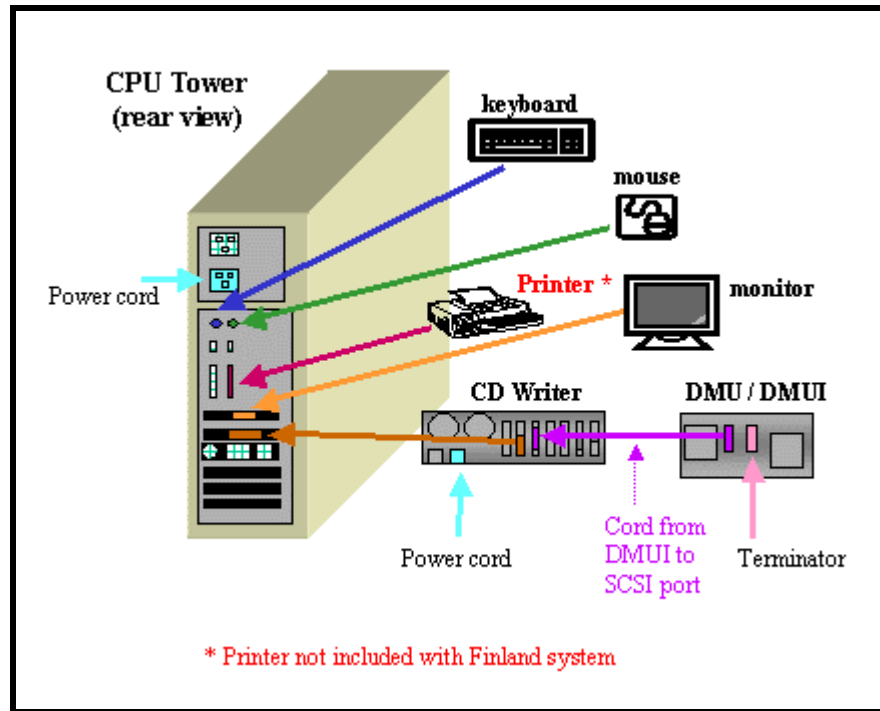

Fig. 4 – MMC system peripherals connected to CPU tower
4. **Connect peripherals to the back of the CPU (Fig. 4):**